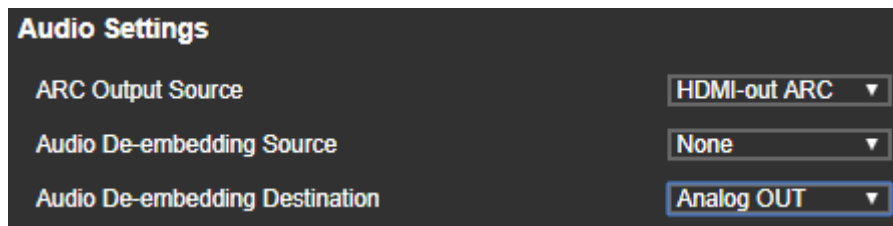

Figure 18: TP-594Rxr Video and Audio Page – Setting HDMI-out ARC
2. Define the ARC signal source on TP-594Rxr (see Defining the ARC Source on page 17), **HDMI-out ARC** in this example (Figure 18).